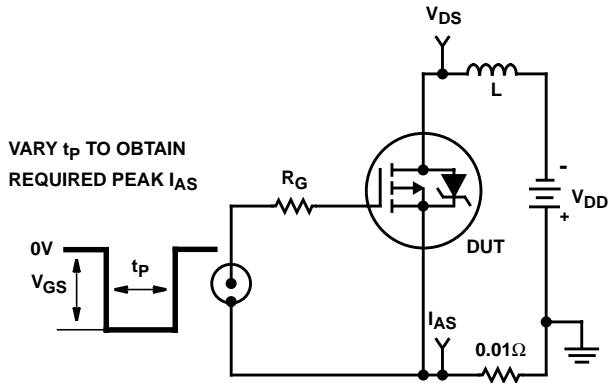

FIGURE 15. UNCLAMPED ENERGY TEST CIRCUIT
4. $V_{DD} = 25V$, starting $T_J = 25^{\circ}C$, $L = 4\mu H$, $R_G = 25\Omega$, peak $I_{AS} = 19A$. See Figures 15, 16.